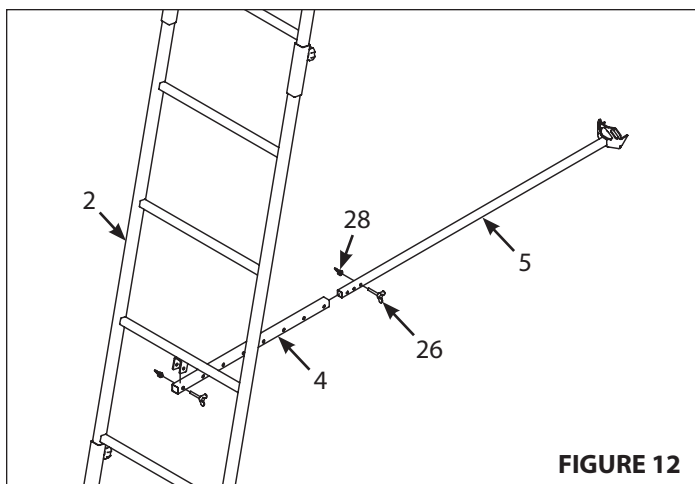

FIGURE 12
17. Attach the two 9" pads (19) and one 36" pad (20) to the armrests and shooting rail by wrapping around tubing and attaching Velcro together.
18. a. Attach the stabilizer bar extension tube (4) to the middle ladder section (2) mounting bracket using one wing bolt (26) and wing nut (28). **SEE FIGURE 12.**
- b. Slide the stabilizer bar (5) into the extension tube (4) and attach the two pieces together using one wing bolt (26) and wing nut (28). Wing bolt must go through both the extension tube and stabilizer bar at appropriate hole to achieve desired distance from tree. Adjustment in length may be needed when ladder is uprighted later in instructions. **SEE FIGURE 12.**